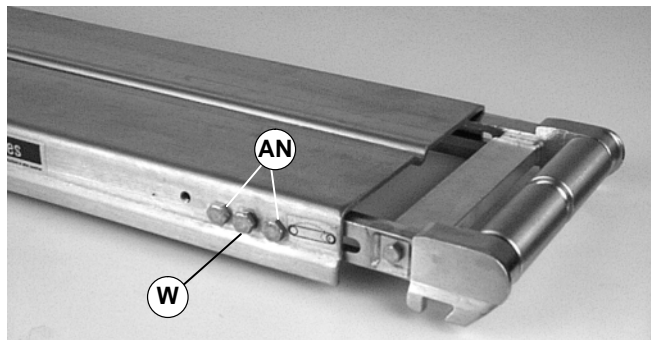

Figure 30
1. Remove screw (W of Figure 30).
2. Remove four (4) tail plate mounting screws (AN of Figures 30 & 31).